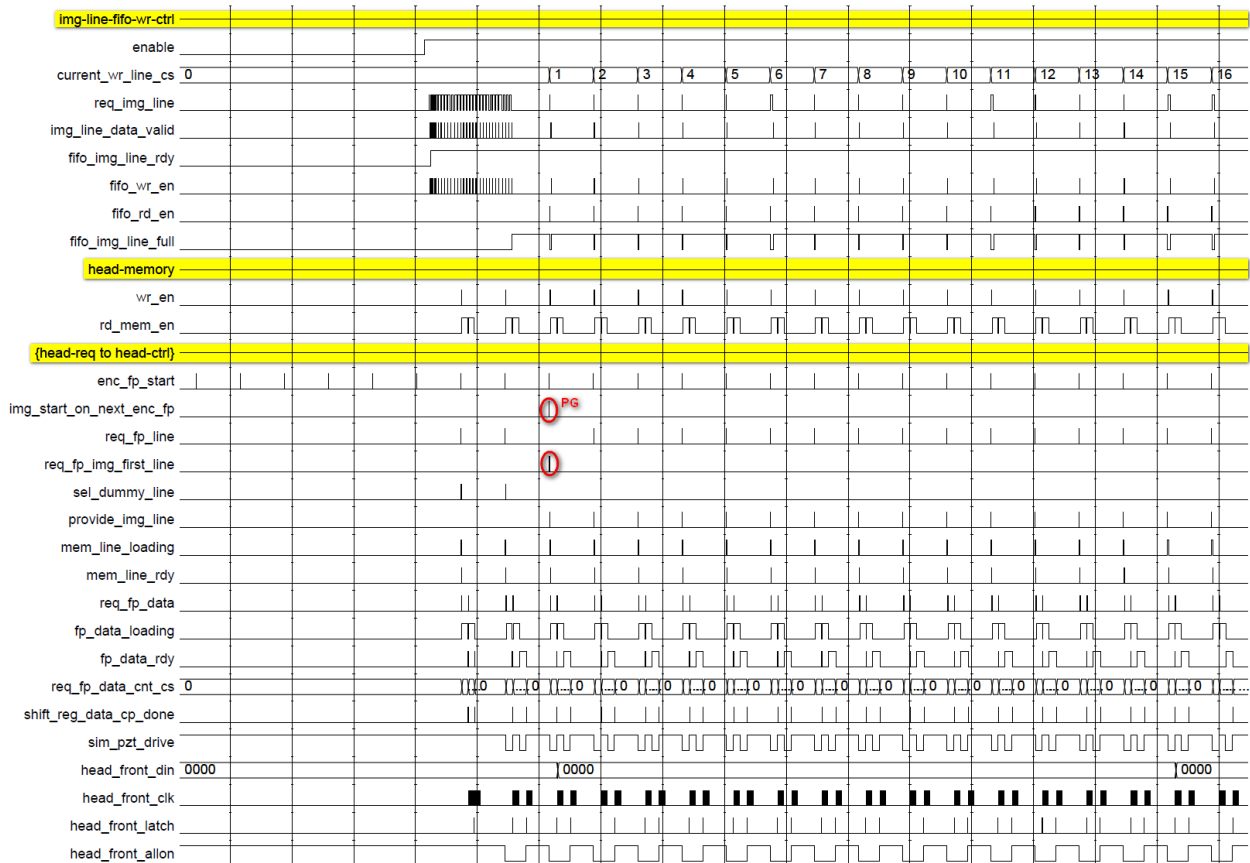
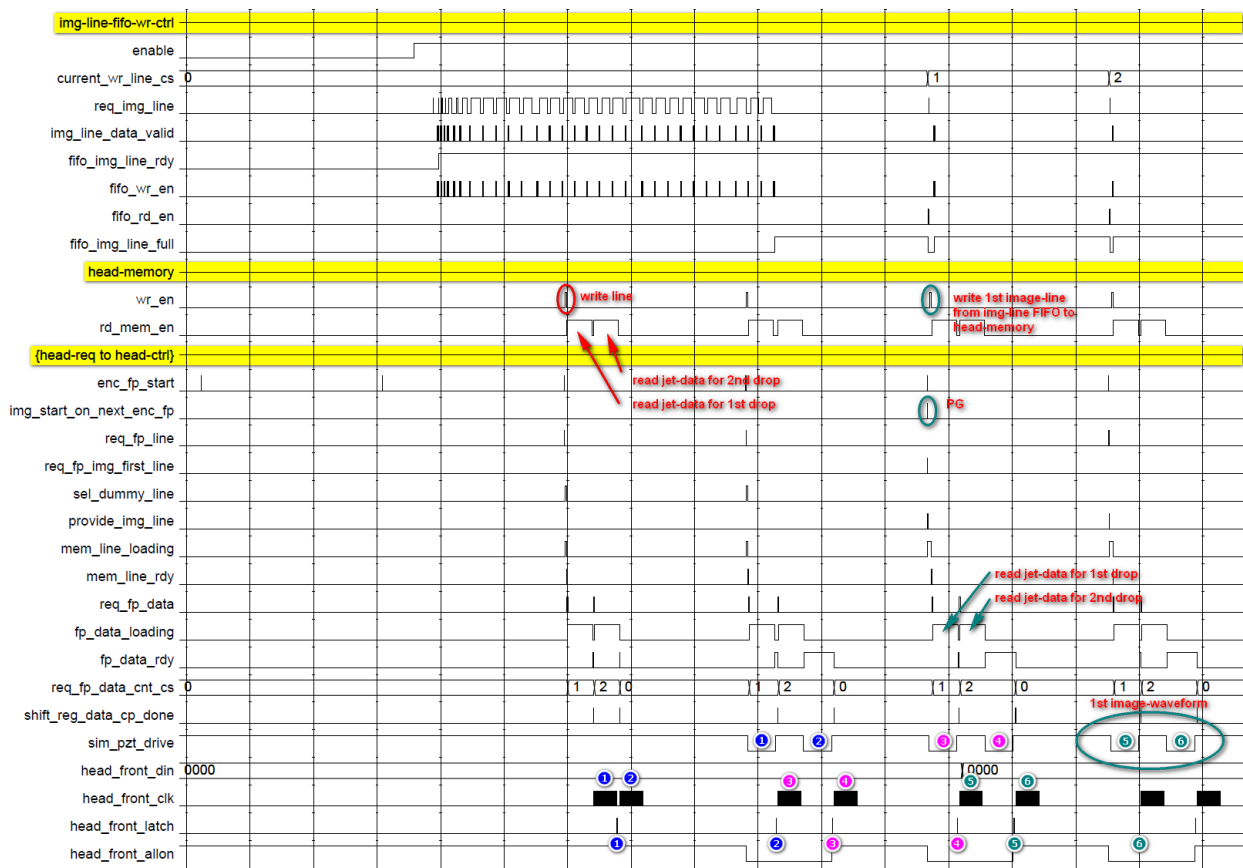

Figure 5: Encoder firepulses and PG sequences
Figure 6: Encoder firepulses and PG sequences (zommed)
- 2) On each encoder firepulse (signal enc_fp_start) and no corresponding print-go (PG or signal img_start_on_next_enc_fp), a dummy-line (signal sel_dummy_line) is loaded into the head-memory (always overwriting the oldest line in the memory). Then the waveform is started (signal sim_pzt_drive) and the print head drop data is read from the head-memory and loaded to the print heads (numbered blue and magenta in the lower part of the Figure 5 and Figure 6).